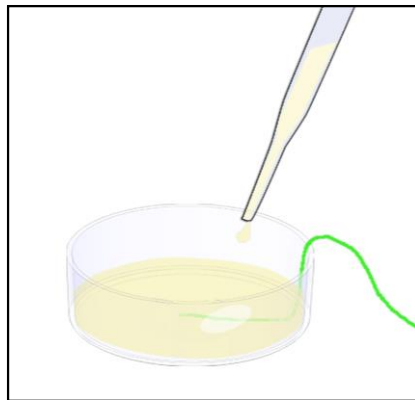

Figure 19. Fill the sample holder with oil
2. Fill the sample holder with oil or water to the level used during regular practice. Make sure the tip of the independent T Sensor is immersed in the liquid, inside the sample holder (see Figure 19).